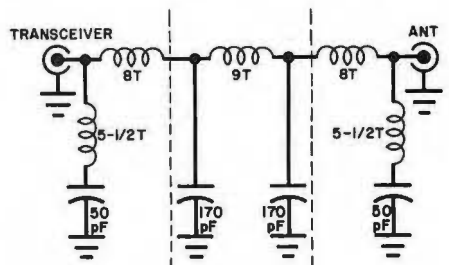

Fig. 5. Typical low-pass filter.
**Making Filters.** Low-pass filters can either be made at home or bought assembled. There are a large number of commercially available models. They are rather simple, though, and the schematic of a good one is shown in Figure 5. All capacitors (use 100 and 70 pF in parallel to get 170 pF) should be 500-V silver mica components. Given in the schematic are the number of turns for each coil. Wind them with 12 or 14 gauge wire on half-inch (1.3-cm) ID forms, at 8 turns per inch. The dashed lines are metal shields. The entire assembly can be mounted in a 6" x 4" x 2" (15.2 x 10.2 x 5.1 cm) enclosure.